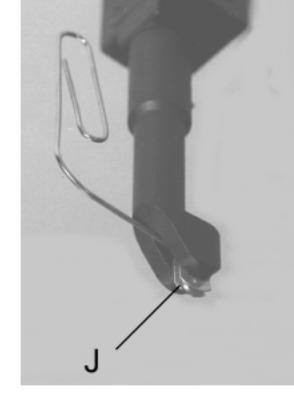

Figure 4
Slide the tungsten carbide wheel unit into the slot as shown at (J), Figure 4. Place the base on top of
The cutting wheel should last a long time if properly cared for and not damaged, but If necessary, it can be easily replaced. Pry the wheel and its metal clip (J) out of the slot in the cutting head with a paper clip as shown in Figure 4. Slide a replacement wheel unit (Order #03-131) in the slot as far as it will go.